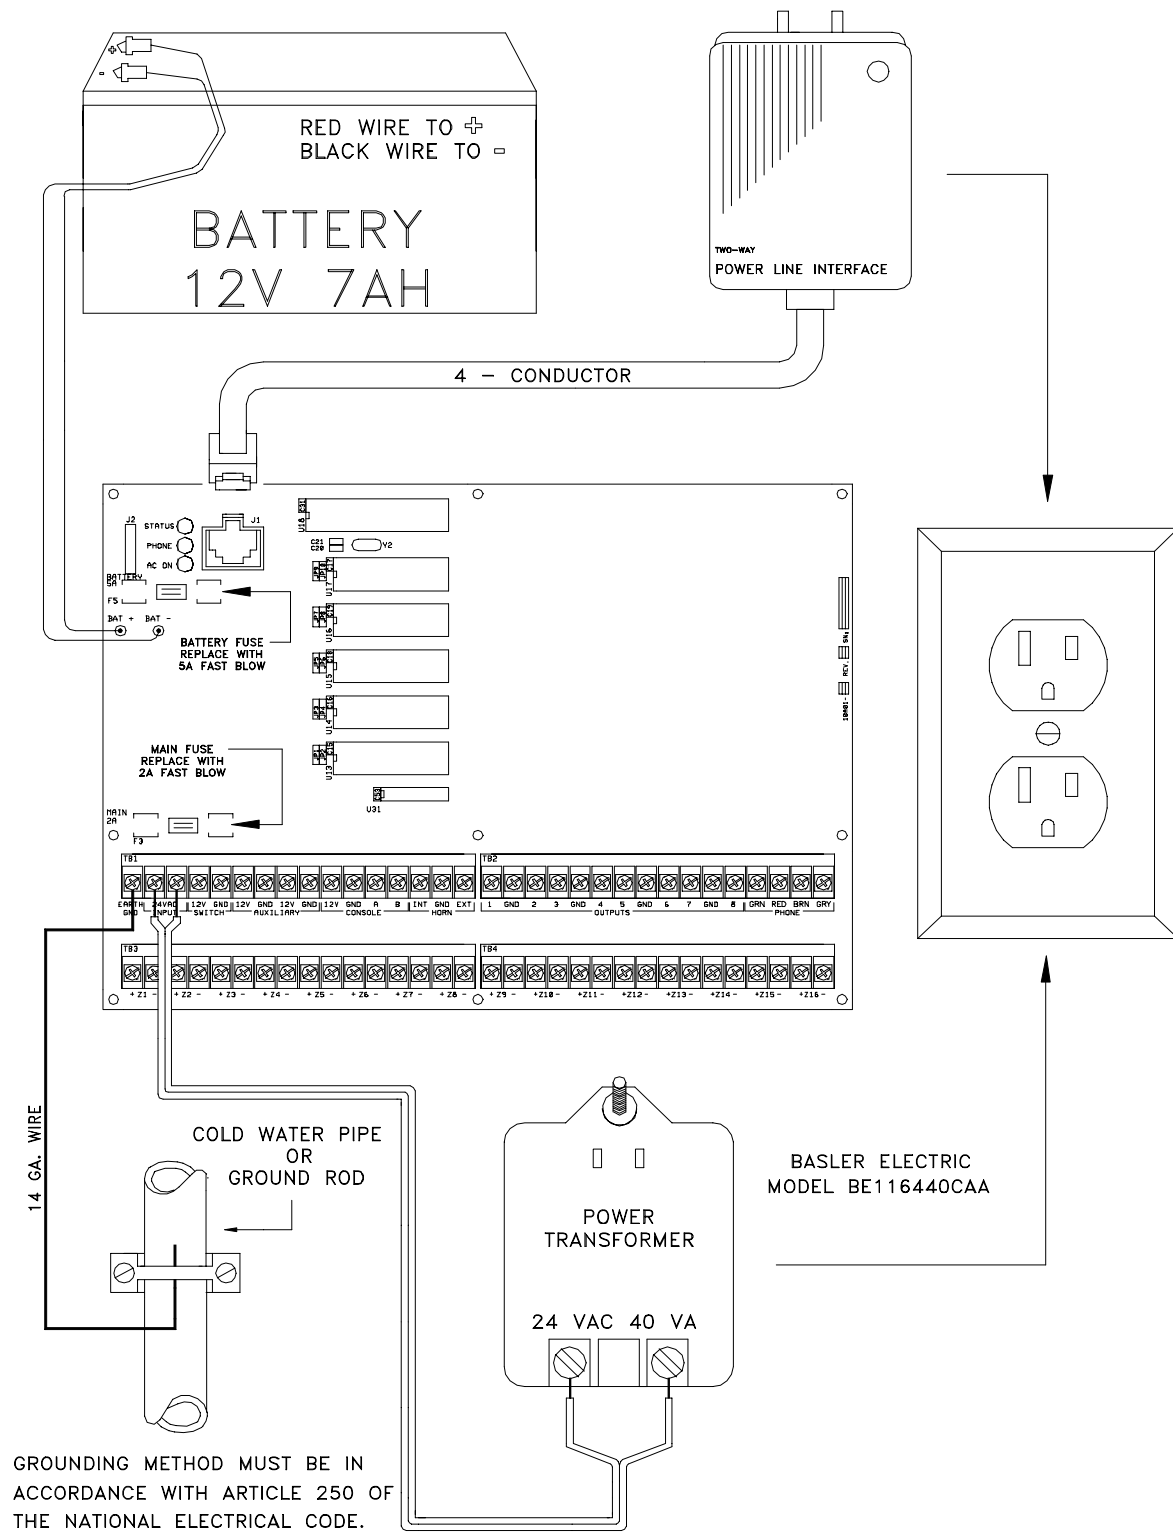

FIGURE 1
6. Refer to **FIGURE 1 (CONTROLLER HOOKUP)** for this configuration.